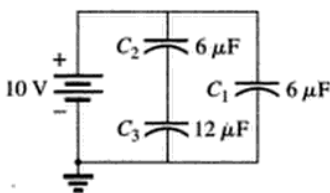

FIG. 10.120
49. Find the voltage across and the charge on each capacitor for the circuit in Fig. 10.120.